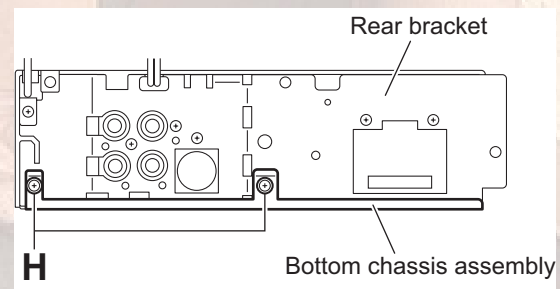

Fig.11
3.1.7 Removing the main board (See Figs.11 and 12)
- (1) From the rear side of the bottom chassis assembly, remove the two screws **H** attaching the rear bracket to the bottom chassis assembly. (See Fig.11)